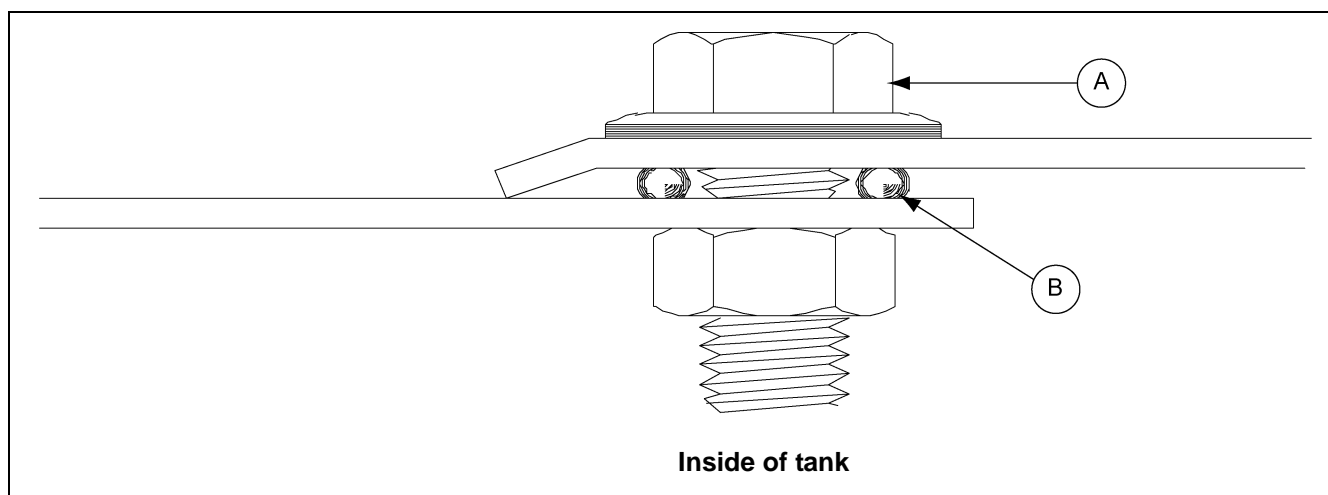

Figure 7C *Roof Sheet Overlap Detail*
NOTE: *The roof and sidewall ladders are centered between seams. When placing the roof panel, the outside edge is bent down. This edge is to be placed on the outside of other roof panel to form a tight seal. (See Figure 7C on Page 27.)* Be sure to apply two (2) strips of caulking on all seams. Assemble roof panels in a counterclockwise manner.